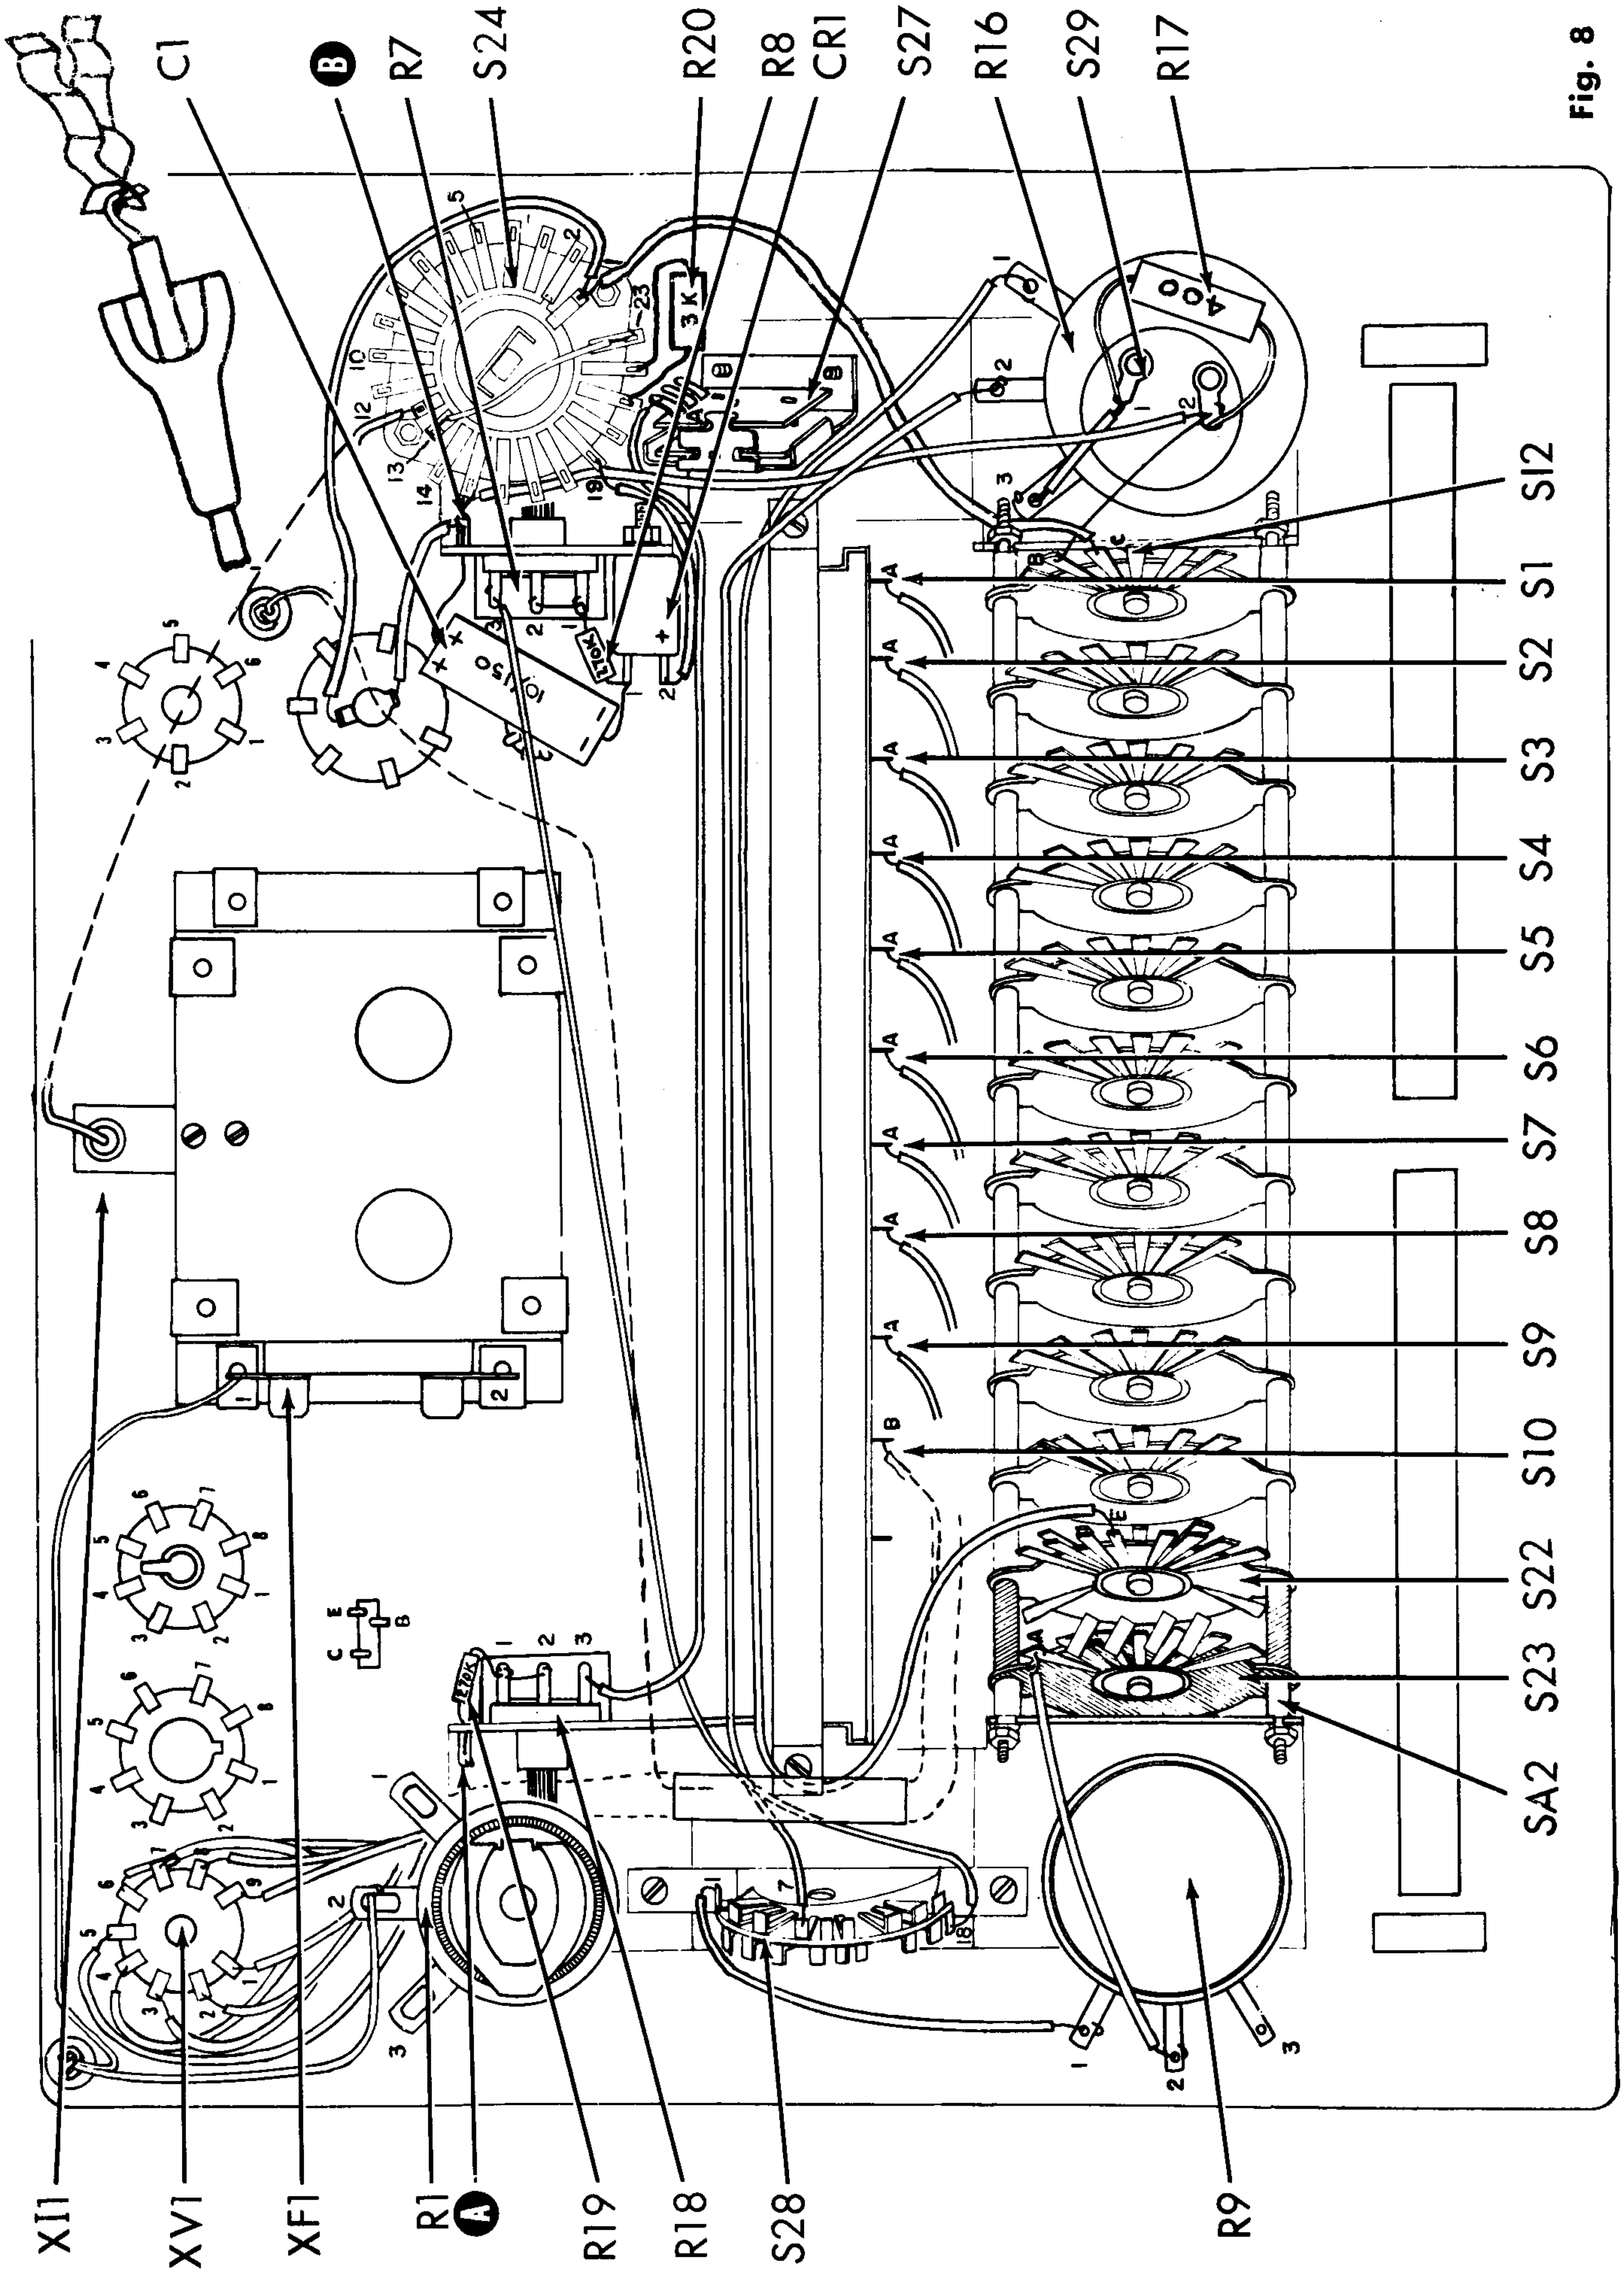

Fig. 8
(See Fig. 8)
- (✓) 1. Fig. 8. Set the 12 levers of SA2 to the mid-position and insert the switch sub-assembly into the panel. Note that lever V fits into a shorter slot than the others; position this lever accordingly.
- (✓) 2. Fig. 8. Note that the filament switch, S24, has a small locating key. Place a 3/8" flat washer over the shaft and insert this switch thru the appropriate holes in the bracket and panel so that the key engages the mating hole in the bracket. Fasten it loosely to the panel with a 3/8" nut.
- (✓) 3. Fig. 8. In the same manner, loosely fasten R1, R9, and R16 in their respective holes. Use one 3/8" flat washer and one 3/8" nut with each. Make sure that the locating keys engage the bracket holes properly.
- (✓) 4. Fig. 8. Press a small red knob on the LINE and MERIT switch shafts. Place the small black knobs on the remaining 24 push-button and lever shafts. Check to see that all levers and knobs fit their respective slots and holes, then tighten the panel nuts holding S24, R1, R9, and R16.
- (✓) 5. Fig. 8. Connect the white lead from the pilot light assembly, XI1, to S24-12 (C).
- (✓) 6. Fig. 8. Connect a short piece of bare wire, covered with spaghetti, from S24-13 (C) to S24-23 (C).
- (✓) 7. Fig. 8. Connect the 3K 5W resistor, R20, from S24-21 (C) to S24-22 (S).
- (✓) 8. Fig. 8. Connect a short piece of bare wire, covered with spaghetti, from the terminal connected to the shell of the pilot light base in XV7 (S) to ground "B" (C).
- (✓) 9. Fig. 8. Connect a 6" yellow lead from the center terminal of the pilot light base in XV7 (S) to S24-1 (C).
- (✓) 9a. Fig. 8. Connect a 7" yellow lead from S24-1 (S) to S12-C (S).
- (✓) 10. Fig. 8. Connect one end of a 270K resistor, R8 to R7-1 and 2 (solder both). Connect the other end to CR1-1 (C).
- (✓) 11. Fig. 8. Connect a 4" yellow lead from CR1-2 (S) to S24-19 (C).
- (✓) 12. Fig. 8. Connect the positive (+) end of the 10mfd/150V capacitor, C1, to ground "B" (C). Connect the negative (-) lead to CR1-1 (S).
- (✓) 13. Fig. 8. Connect a 14" red lead from R7-3 (S) to S28-18 (S).
- (✓) 14. Fig. 8. Connect a 14" brown lead from S27-A (S) to R18-3 (S).
- (✓) 15. Fig. 8. Connect one end of the second 270K resistor, R19, to R18-1 and 2 (solder both). Connect the other end to ground "A" (C). *SEE # 61-66*
- (✓) 16. Fig. 8. Connect an 8" black lead from ground "B" (S) to S29-2 (C).
- (✓) 17. Fig. 8. Connect the 400Ω 5W resistor, R17, from S29-1 (C) to S29-2 (C).
- (✓) 18. Fig. 8. Connect a short piece of bare wire, covered with spaghetti, from S29-2 (S) to S12-B (S).
- (✓) 19. Fig. 8. Connect a short piece of bare wire, covered with spaghetti, from R16-3 (S) to S29-1 (C).
- (✓) 20. Fig. 8. Connect a 16" green lead from R16-2 (S) to S28-7 (S).
- (✓) 21. Fig. 8. Connect a 20" yellow lead from R16-1 (S) to S22-E (S).
- (✓) 22. Fig. 8. Connect a 5" green lead from R9-1 (S) to S28-1 (S).
- (✓) 23. Fig. 8. Connect a 4" blue lead from R9-2 (S) to S23-A (S).
- (✓) 24. Fig. 8. Connect and solder one end of the following leads:
- (✓) 25. Fig. 8. Form the above leads together neatly and pass a 3" length of tubing over the free end. Pass the tubing up so that it protects and binds the leads as they bend around SA1.
- (✓) 26. Fig. 8. Connect and solder the above leads to XV1 as follows: Brown to pin 1, Red to pin 2, Orange to pin 3, Yellow to pin 4, Green to pin 5, Blue to pin 6, Violet to pin 7, Grey to pin 8, and White to pin 9.
- (✓) 27. Fig. 8. Knot the black rubber-covered lead 12" from the free end and pass thru the small grommet. Solder the free end to the plate-and-grid cap.
- (✓) 28. Fig. 8. Pass the line cord thru the large grommet so that the stripped end will be behind the panel. Knot the line cord 6" from the free end. Connect one end to XF1-1 (S) and the other end to R1-2 (S).